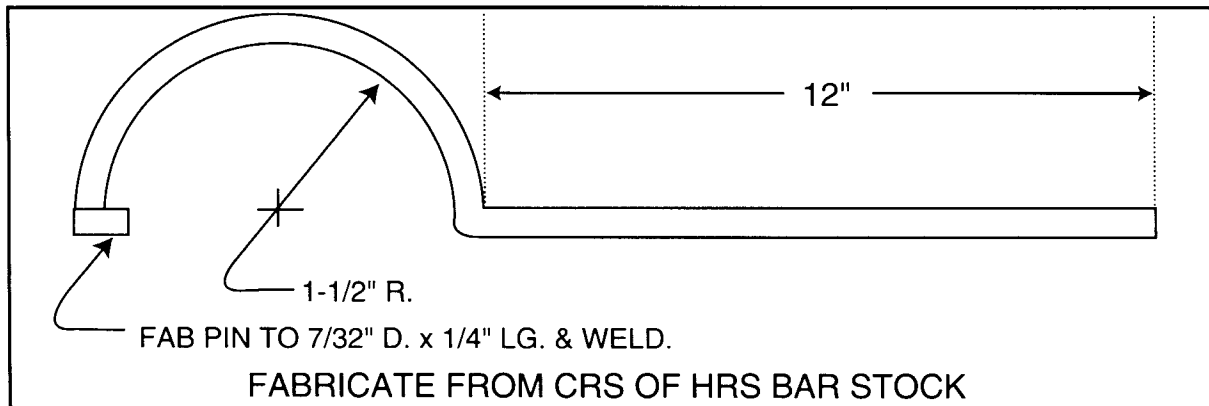

Figure 18
3. Pre-loading requires the use of a spanner wrench or a punch and hammer. You can either purchase the spanner wrench or fabricate one, using the specifications noted in Figure 18.